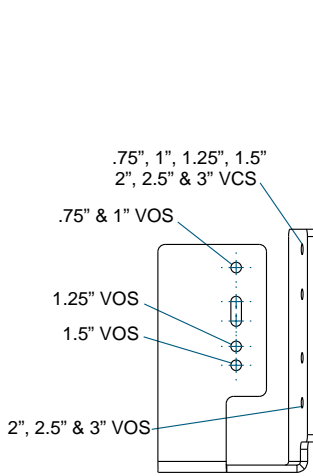

Figure 4:
- Note wand position and mounting hole location. Carefully remove the 2 screws and lift existing switch. Reference Figures 4 through 9 (page 49) to ensure correct switch location.
- Reference Figures 4 through 9 (below) to ensure correct switch location. Valve size is depicted in the model number by the first 4 digits. For example, a 3" CP valve should have Model No. 300C.